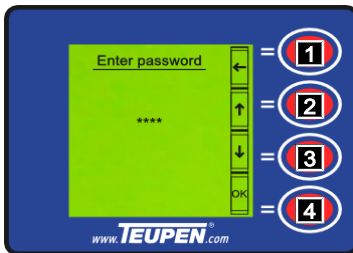

Fig. 88
1. Press the [function key] (Fig.88/4).
2. Select the desired digit with the [function keys] (Fig.88/2 and 3).
3. Use the [function key] (Fig.88/4) to confirm the selected digit.
5. Use the [function key] (Fig.88/1) to return to the main menu.